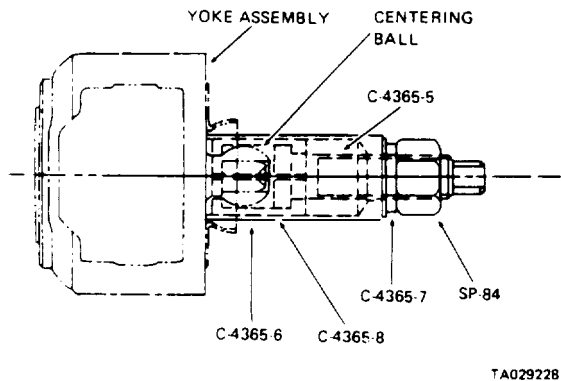

Figure 6-12. centering Ball Removal.
(1) Clean the ball seat insert bushing, and inspect it for wear. [f worn, replace the flange yoke and cross assembly.
(2) Pry the seal from the ball cavity
(3) Remove the washers, spring, and three ball seats
(4) Clean and inspect the centering ball service seats, spring, and washer. If any of these parts are worn, replace them.
(5) To remove the centering ball, use the following tools: C4365-5, C-4365-6, C-4365-7, C-4365-8, and SP-84. Refer to figure 6-12.
(6) Draw the ball off the ball stud.
(7) Clean and respect the centering ball.